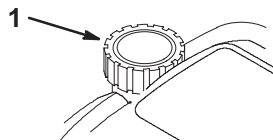

Figure 8
1. Clean around the fuel tank cap (Fig. 8).